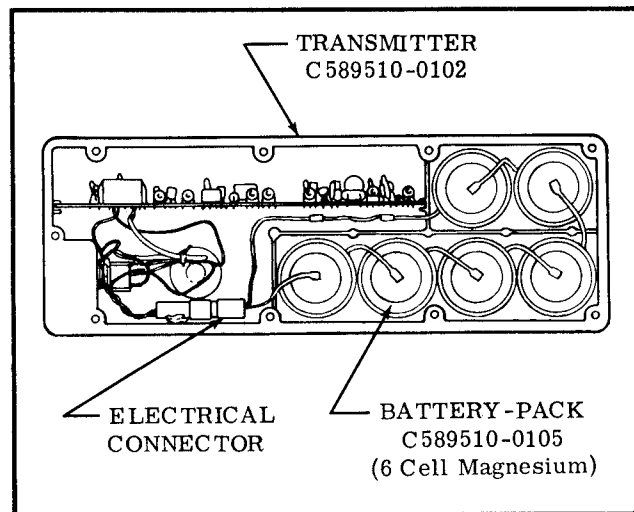

Figure 16-14. Magnesium 6 Cell Battery-Pack Installation
#### 16-93. REMOVAL AND INSTALLATION OF MAGNESIUM SIX (6) CELL BATTERY-PACK. (Refer to figure 16-14.)